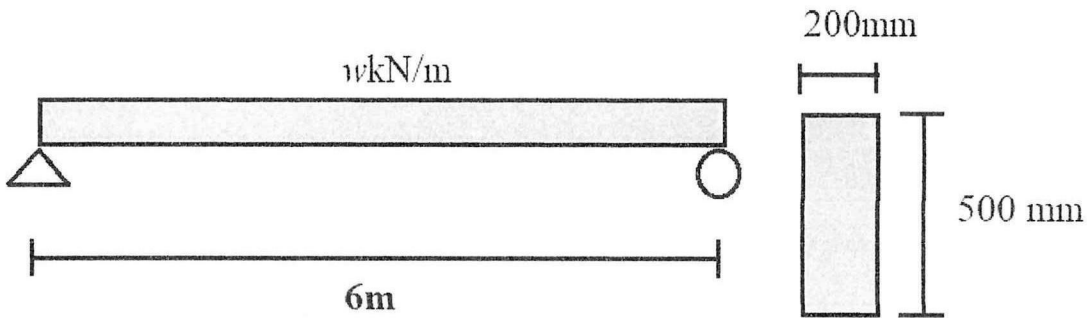

Figure Q3: Simply Supported Beam
Q3 The **Figure Q3** shows a simply supported rectangular reinforced concrete beam with 6 m length. The beam is inside building subject to a 1 hour fire resistance and design for 50 years design life. Design the beam with deflection and crack check. Illustrate the beam detailing. Use concrete characteristic strength, $f_{ck} = 30 \text{ N/mm}^2$ and steel characteristic strength, $f_{yk} = 500 \text{ N/mm}^2$.
- (c) Calculate all the area of steel required for beam in **Figure Q3**. (12 marks)
- (e) Check the deflection for the beam in **Figure Q3**. (5 marks)